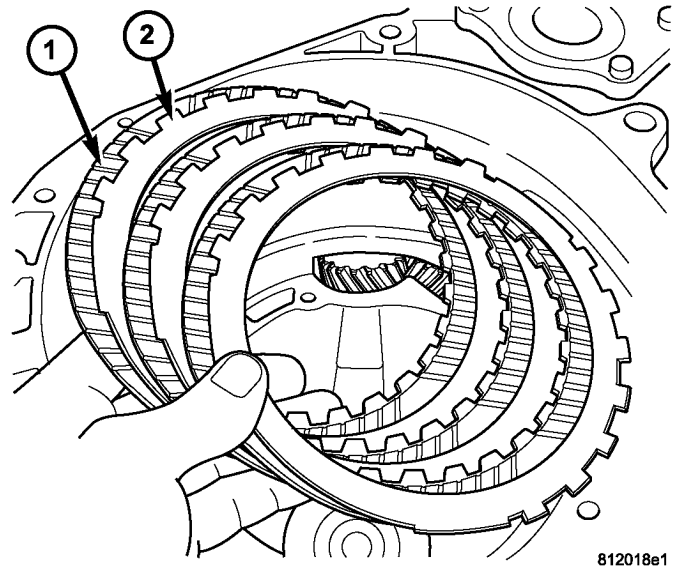

Fig. 44 Remove 2/4 Clutch Pack
(29) Remove 2/4 clutch pack (Fig. 44). **Tag 2/4 clutch pack for reassembly identification.**